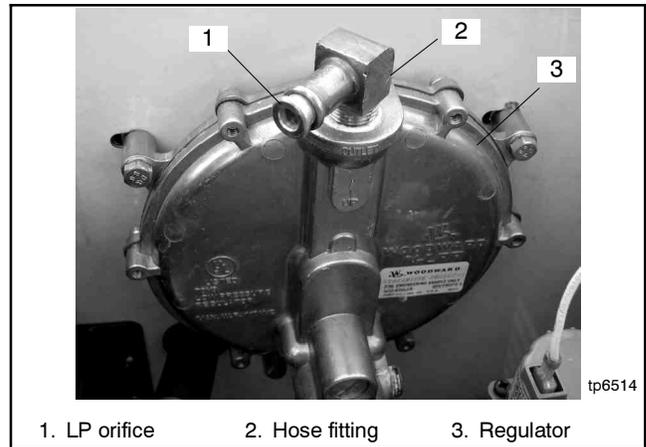

Figure 1-16 LP Fuel Orifice Installation
6. Place the orifice into the hose fitting. See Figure 1-16.